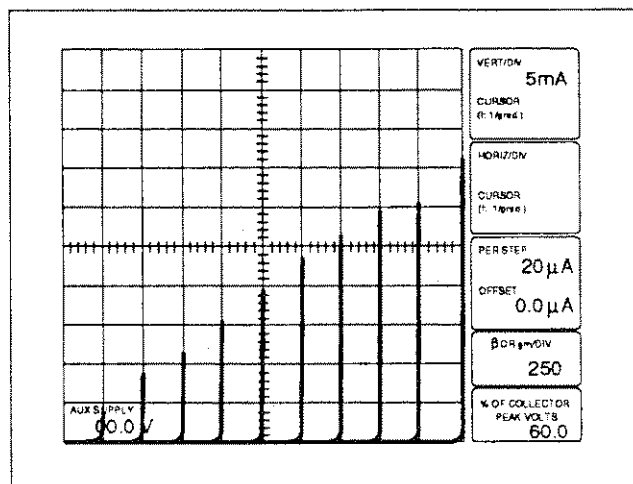

Figure 3-9. IC vs. IB
19. Set the HORIZONTAL control counterclockwise to STEP GEN. Note the display of collector current vs base-current, one step per horizontal division (see Figure 3-9).